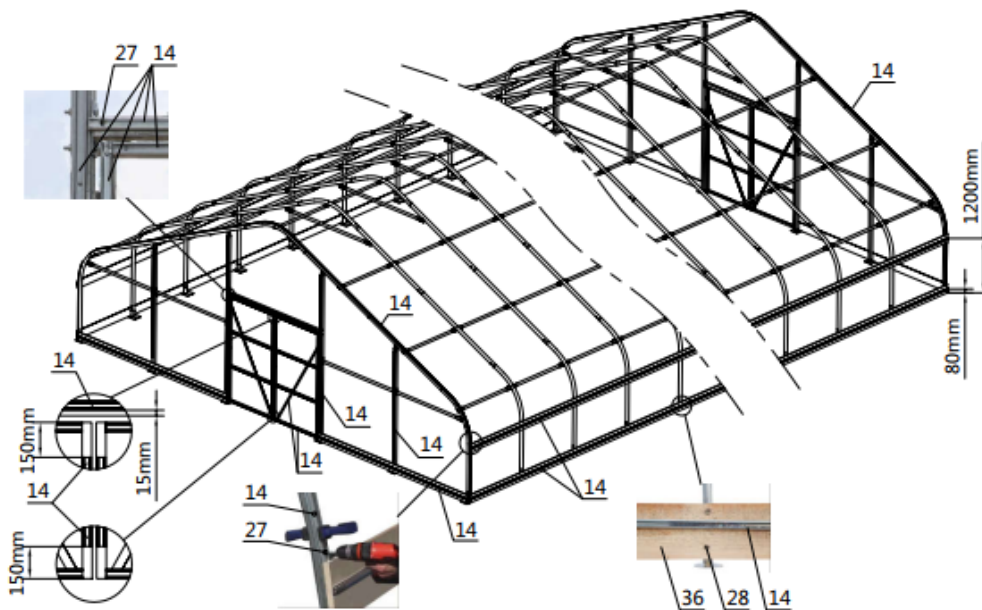

Figure 8
Step 5 : Installing boards (#36) and reed groove (#14) (refer to figure 8)
- (126) Reed groove (#14)
- (630) Self tapping screw (#27)
- (256) Self tapping screw (#28)
- (82) Board (#36)